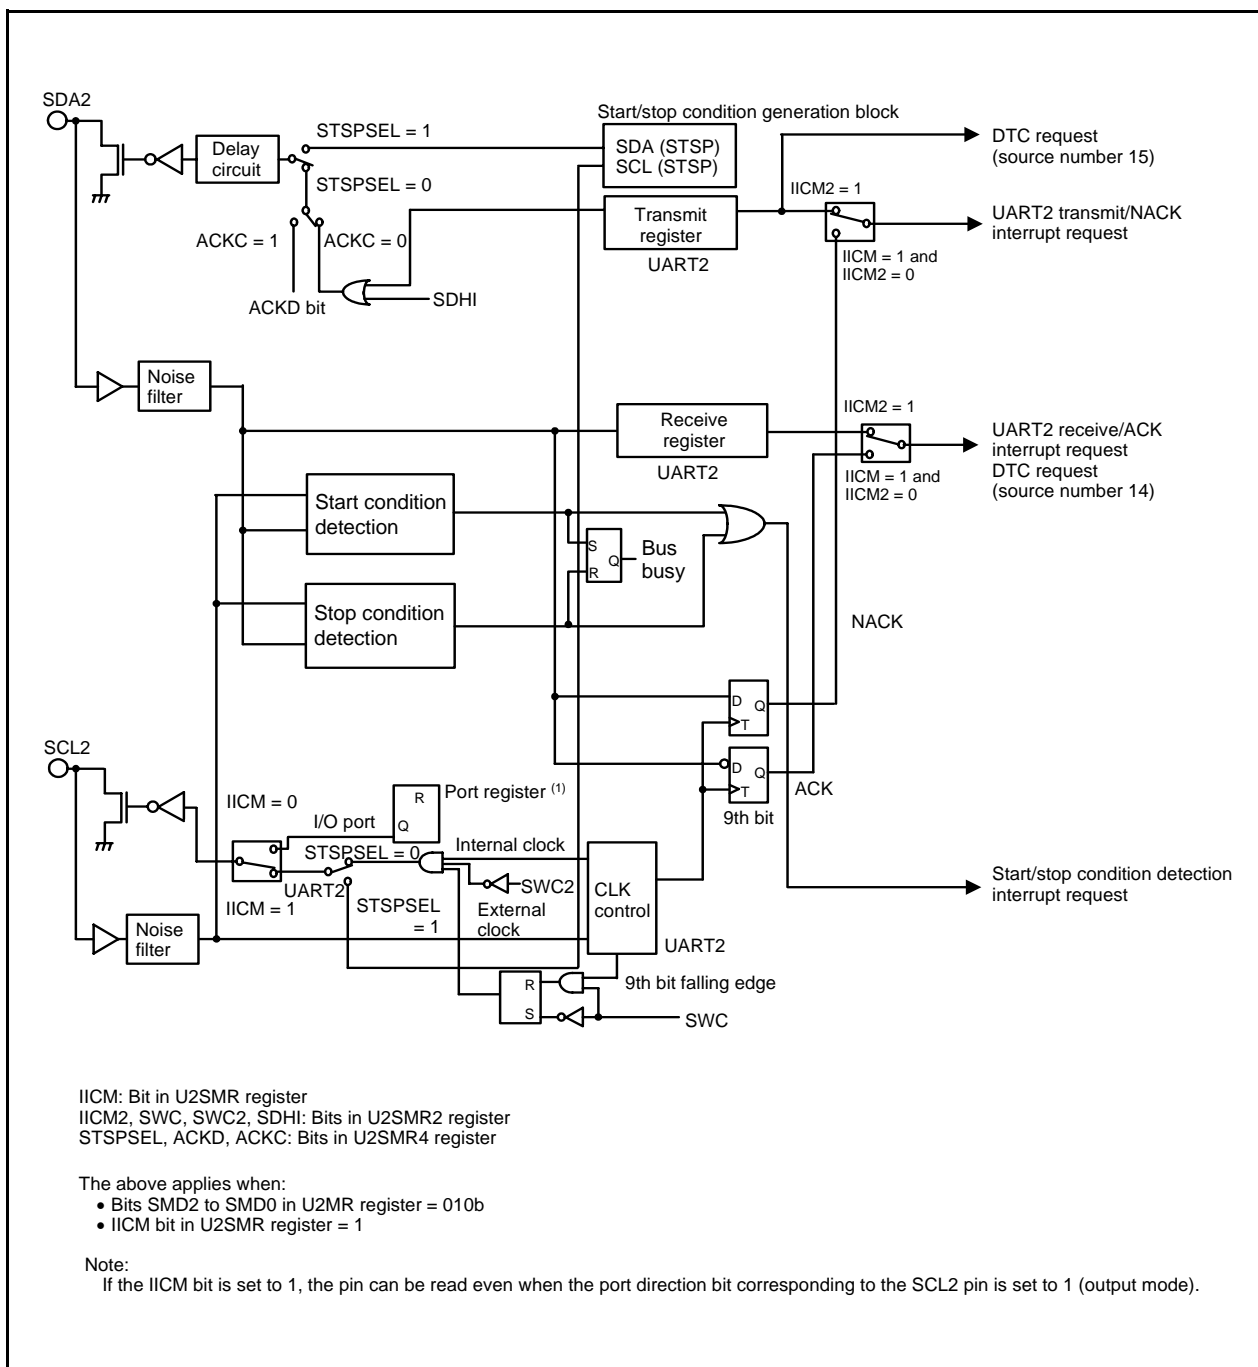
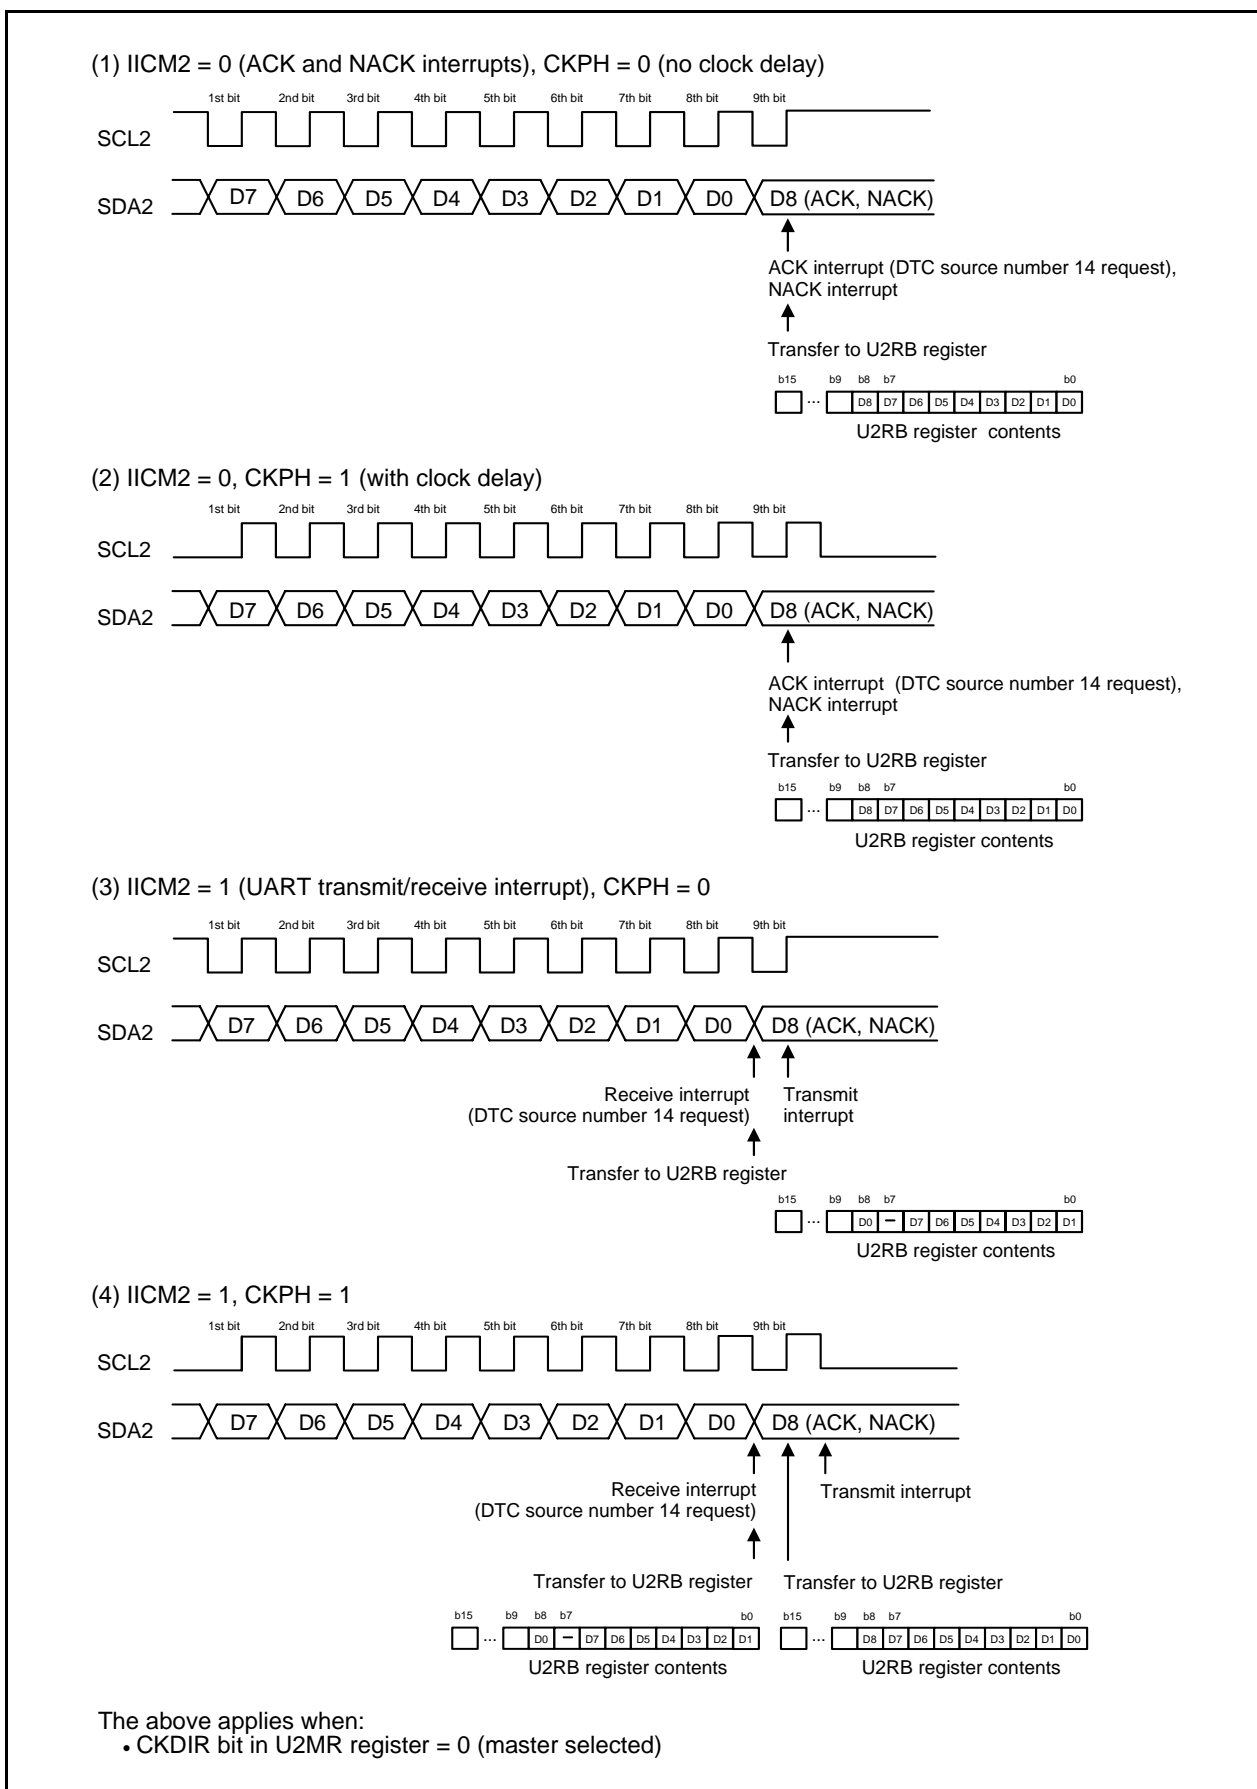

Figure 23.13 I²C Mode Block Diagram
Figure 23.14 Transfer to U2RB Register and Interrupt Timing
I2C mode is provided for use as a simplified I2C interface compatible mode. Table 23.9 lists the I2C Mode Specifications. Tables 23.10 and 23.11 list the registers used in I2C mode and the settings. Table 23.12 lists the I2C Mode Functions, Figure 23.13 shows an I2C Mode Block Diagram, and Figure 23.14 shows the Transfer to U2RB Register and Interrupt Timing.
6. Refer to **Figure 23.14 Transfer to U2RB Register and Interrupt Timing**.
The transfer clock is used to transmit and receive data as is shown in **Figure 23.14 Transfer to U2RB Register and Interrupt Timing**.